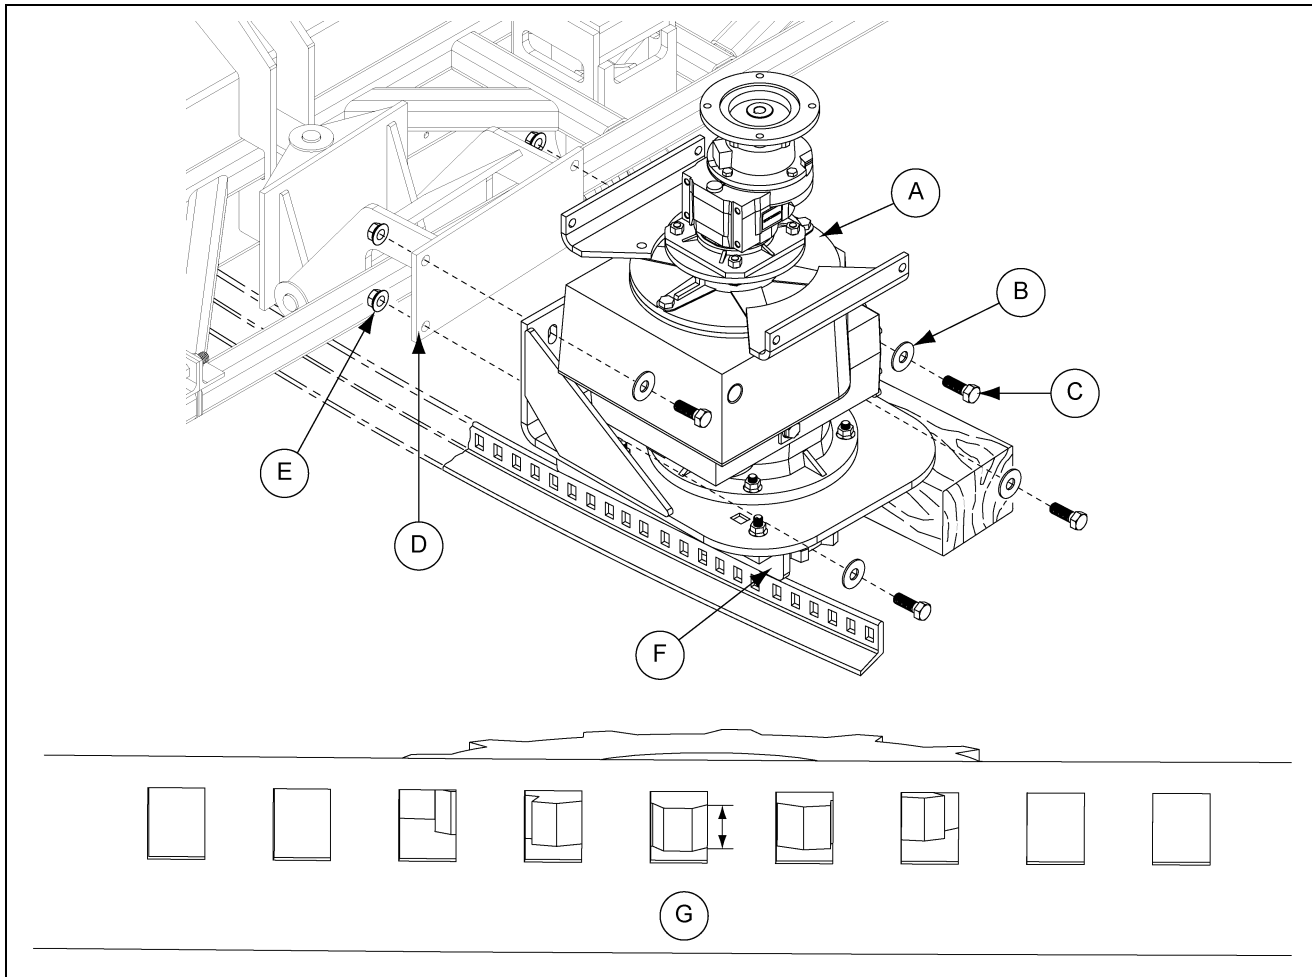

Figure 4BA
1. Carefully place the gearbox assembly (A) in the upright position and support the assembly with blocks. (See Figure 4BA.)
2. Position the gearbox assembly (A) so the drive keeper mounting plate (F) rests on top of the track and center the gear wheel teeth vertically in the track slots.
3. Install gearbox assembly (A) to pivot mount assembly (D) using hex bolts (C), flat washers (B) and flange nuts (E).